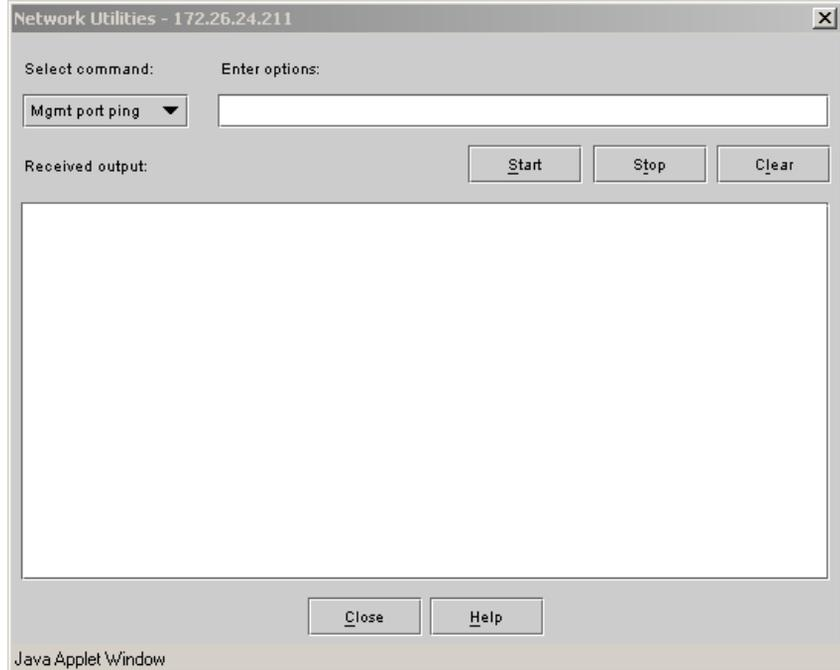

Figure 6-13 Network Utilities Dialog Box
1. Select *Statistics/Info>Ping* to display the *Network Utilities* dialog box (Figure 6-13). You can use this to ping from the management port or iFCP/iSCSI ports.